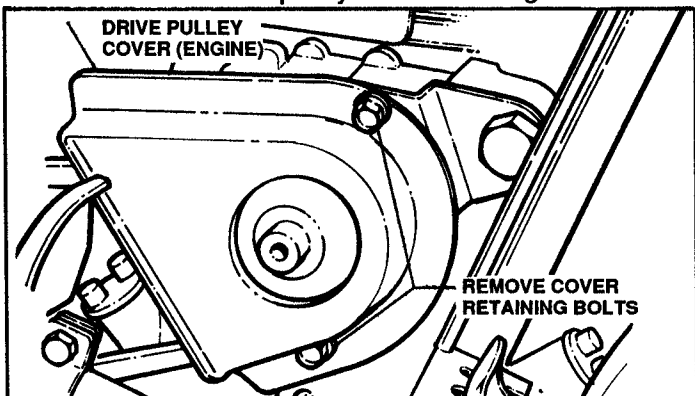

FIGURE 10
- 3. Remove the drive pulley cover. See Figure 10.